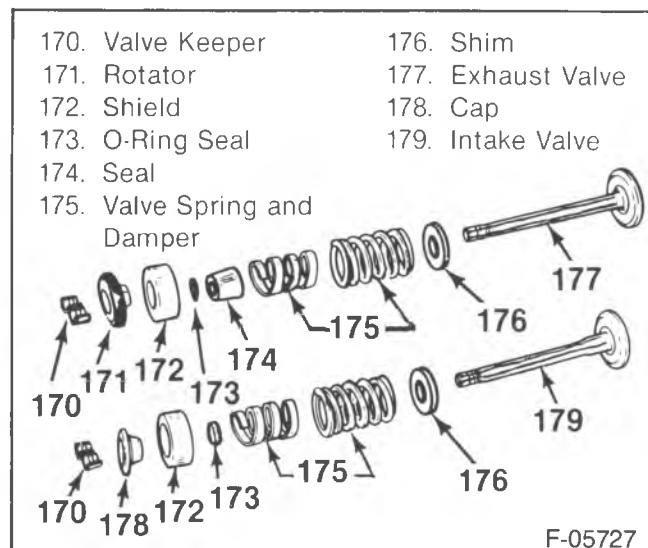

Figure 20—Valves and Components
Disassemble (Figures 20, 21, and 22)
**Assemble (Figures 20, 21 and 22)**